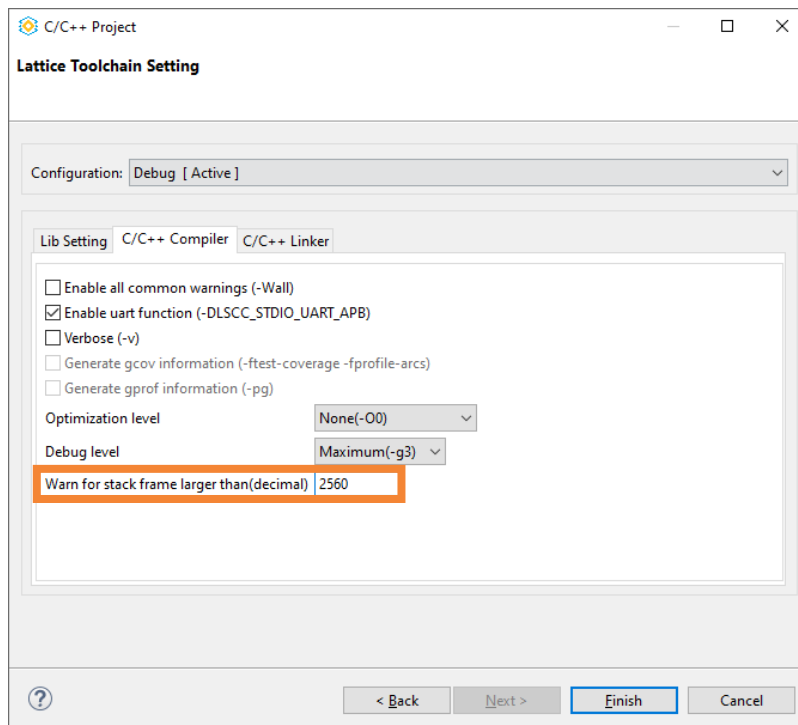

Figure G.6. Toolchain Setting GUI 2
- For solution templates and special templates, such as the CXU template, the **Warn for stack frame larger than** item in the **Lattice Toolchain Setting** GUI can be enabled. To enable this stack overflowed check function, fill in a decimal number in the text box for this item (Figure G.6). If you leave it as default, this function is disabled.